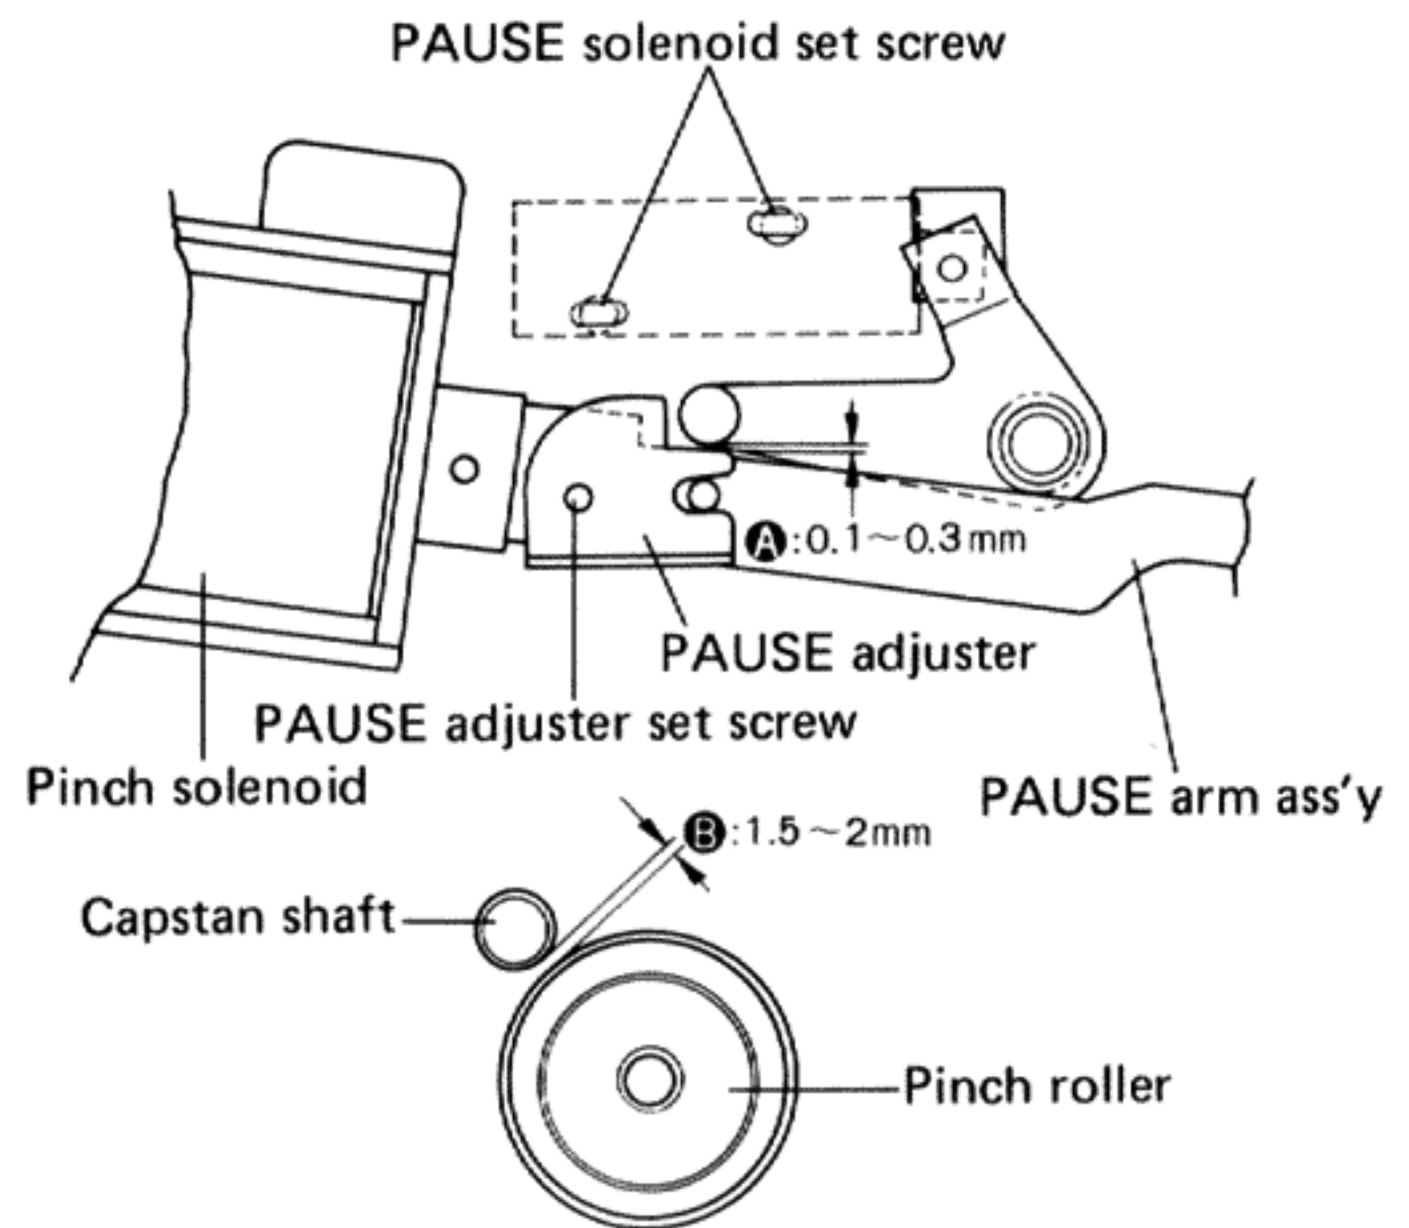

Fig. 28
1. Operate the set at playback and loosen the PAUSE solenoid set screw and adjust the solenoid position so that the clearance **A** between the PAUSE adjuster and PAUSE arm ass'y in Fig. 28 becomes 0.1 ~ 0.3mm.